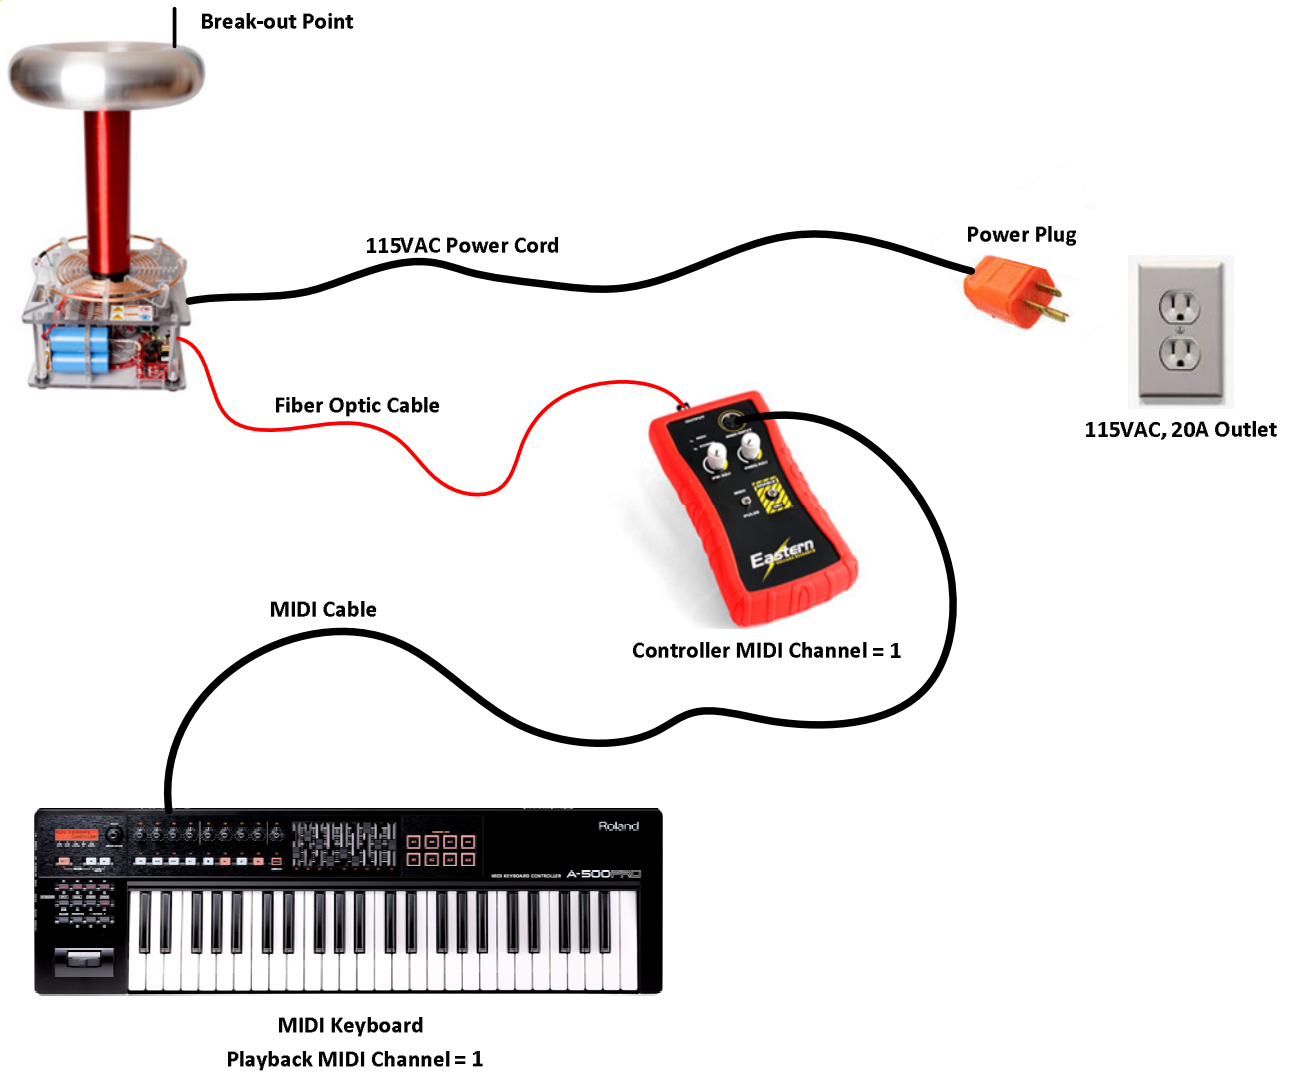

Figure 4 – Plasmasonic DRSSTC Hook-up
- One (1) Plasmasonic System (MIDI Mode operating with Keyboard) – Figure 4